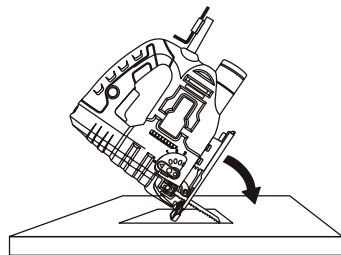

Fig. 12
3. Tilt the jigsaw forward so it rests on the front edge of the base plate and in a position where the blade will NOT touch the workpiece when the switch is turned ON (Fig. 12).